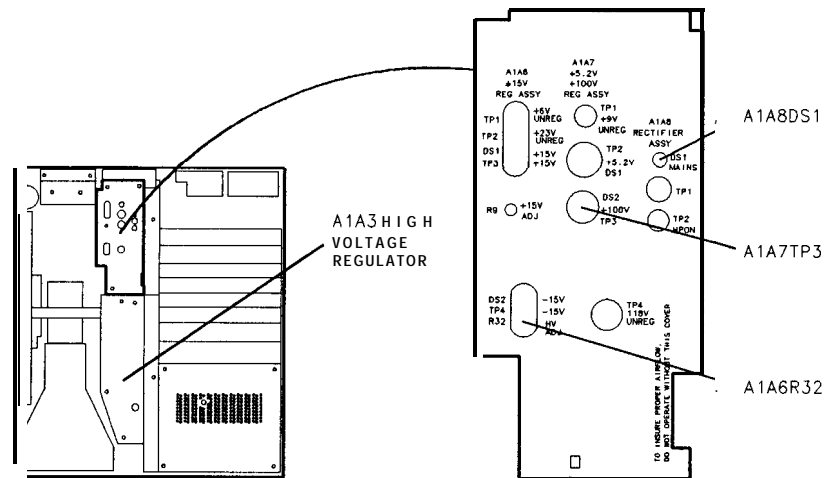

Figure 3-6. Location of High Voltage Adjustments
3. Set the DVM to the 100 V range, and connect the DVM to A1A7TP3 (+ 100 V). Do not use the high-voltage probe. See Figure 3-6 for the location of A1A7TP3.
The MAINS power-on indicator A1A8DS1 (red LED) should be completely off before proceeding with this procedure. See Figure 3-6. The indicator will remain lit for several seconds after the ac line cord has been removed, and will go out slowly (the light becomes dimmer until it is completely out).
15. Adjust A1A6R32 HV ADJ for a DVM indication equal to the calibration factor (calculated in step 8) times the voltage labeled on the top of A1A3 High-Voltage Regulator (noted in step 11). See Figure 3-6 for the location of the adjustment.